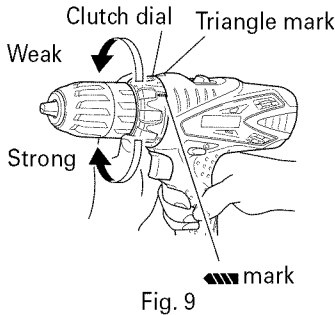

Fig. 9
5. Confirm the clutch dial position (See Fig. 9). The tightening torque of this unit can be adjusted according to the clutch dial position, at which the clutch dial is set.
- (2) Tightening torque indication (See Fig. 9)
- (3) Adjusting the tightening torque (See Fig. 9)